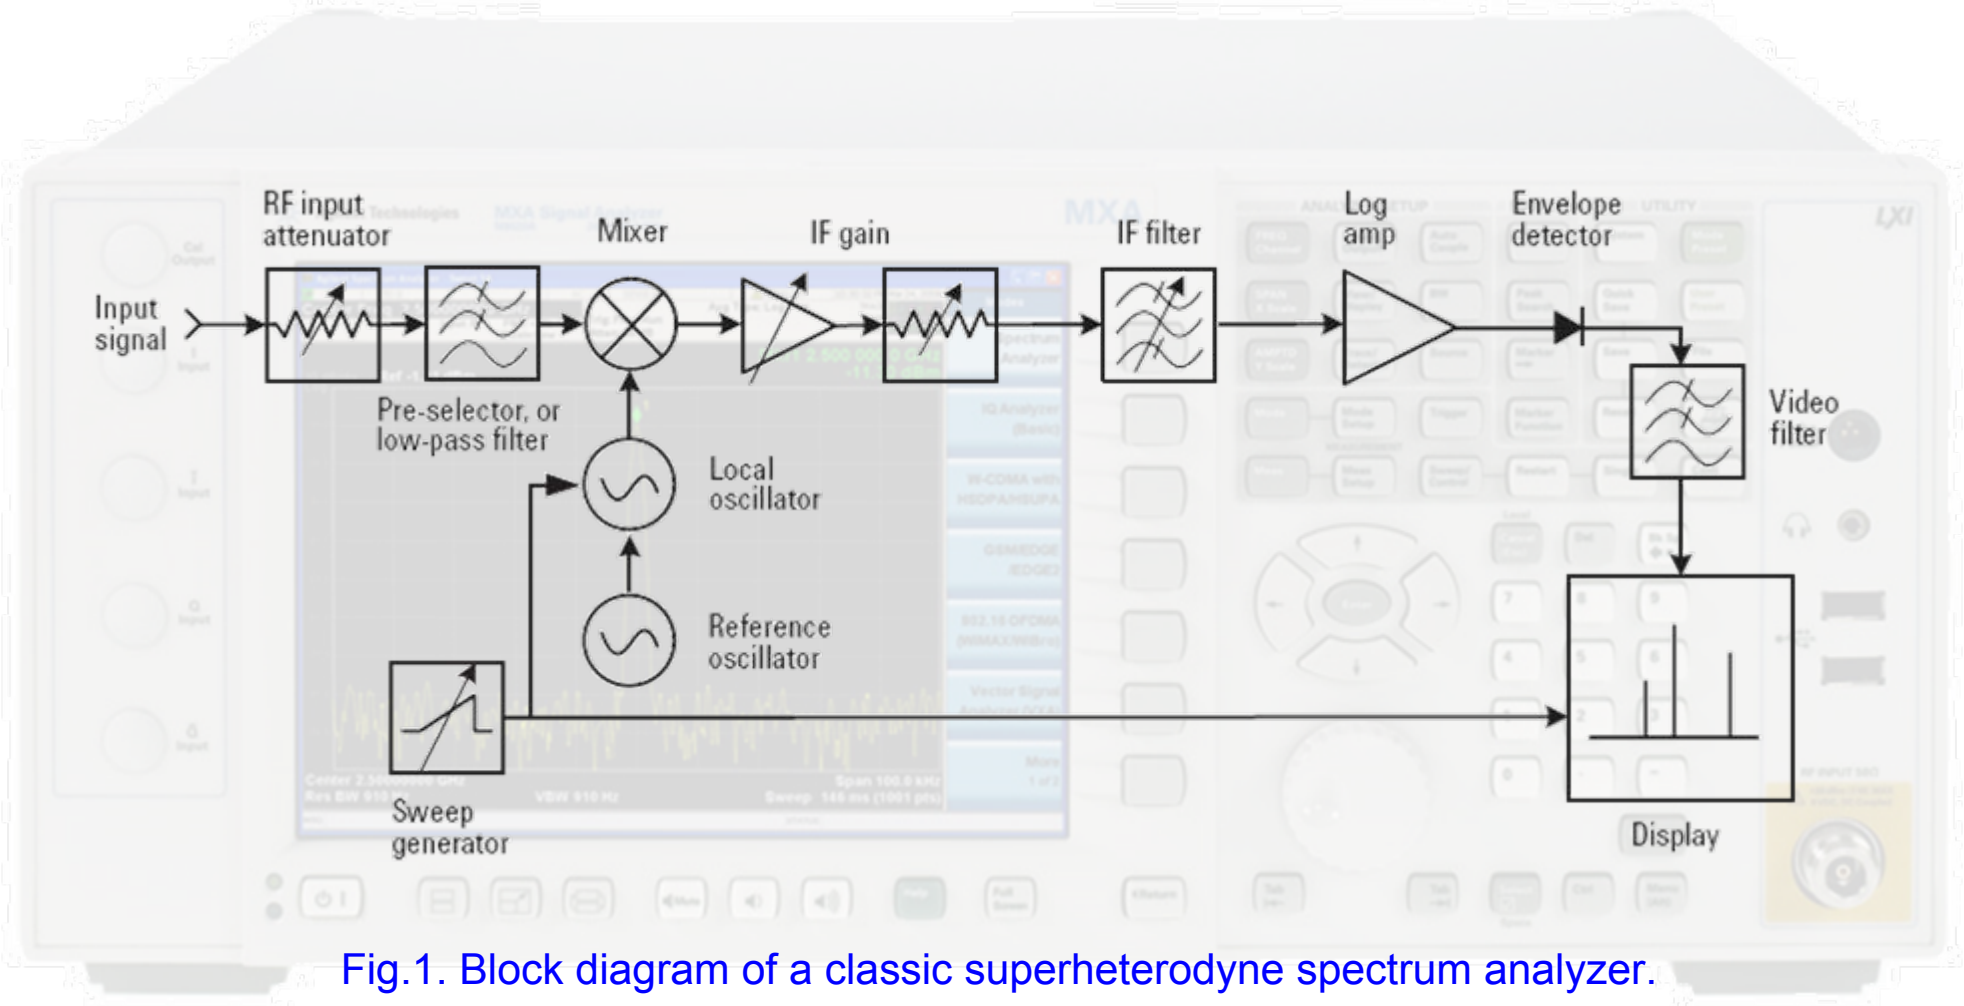

Fig.1. Block diagram of a classic superheterodyne spectrum analyzer.
- ◆ The reflection coefficient of a single impedance Z_L connected to a generator of source impedance Z_0 (Fig. 1, case $Z_G = Z_0$ and $Z = 0$)